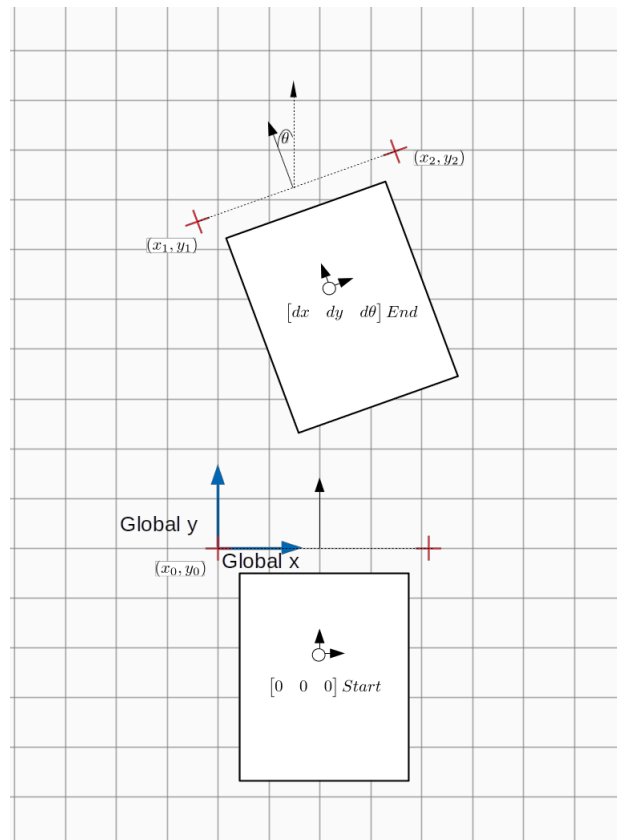

Figure 1.9: Robot orientation
- The global coordinate system originate at the initial position of the mid point of the axis connecting the robot's wheels(initial position of the robot's origin). Since the magnitude change of  $x$  and  $y$  ( $\Delta x$  &  $\Delta y$ ) will be the approximately same for the two markers and the origin of the robot, to take the distance travelled by the robot origin we take the average change in  $x$  and  $y$  of the two markers. This distance will also be the  $x$  and  $y$  values with respect to the global coordinate system. The change in orientation will be found using the direction vector connecting the front and rear markers . See Figure 1.9 and equation 1.1 for details.
- Since there are 4 variables namely  $x_1, x_2, y_1, y_2$  (refer Figure 1.9 for naming convention), the error associated to each of them contribute to the propagated error.